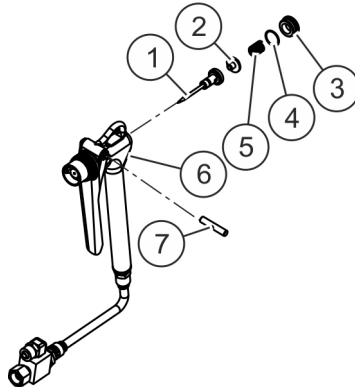

Fig. 4: Removing the material needle
4.  Unscrew the cover (Fig. 4/3).
5.  Remove the seal (Fig. 4/4) and pressure spring (Fig. 4/5).
6.  Take hold of the screw (Fig. 4/2) using suitable pliers and remove the material needle (Fig. 4/1) with guide and seal.
7.  Remove the actuator (Fig. 4/7) from the main element (Fig. 4/6).